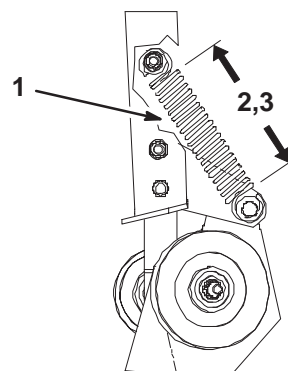

Figure 75
3. Measure the length of the spring. Check to make sure the coils of the spring on the spring-loaded idler pulley measures as listed below (Fig. 75 and 76).
- Left spring measurement: $5-3/4 \pm 1/8$ inch (14.6 \pm 0.3 cm) (Fig. 75).
- Right spring measurement: $5-1/2 \pm 1/8$ inch (14.0 \pm 0.3 cm) (Fig. 75).
7. Check to make sure the coils of the spring on the spring-loaded idler pulley have the correct measurement (Fig. 75).